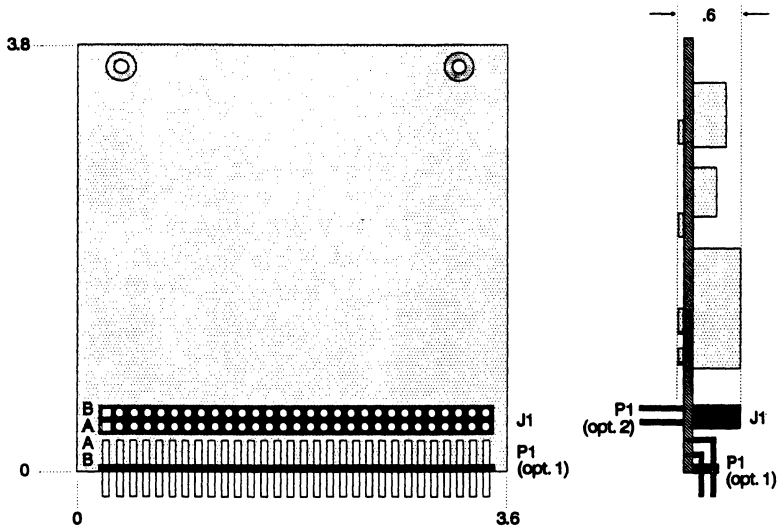

Figure 1. Basic Mechanical Dimensions (8-bit Version)
- **Extremely small form-factor.** 3.6 by 3.8 inches (Figure 1).